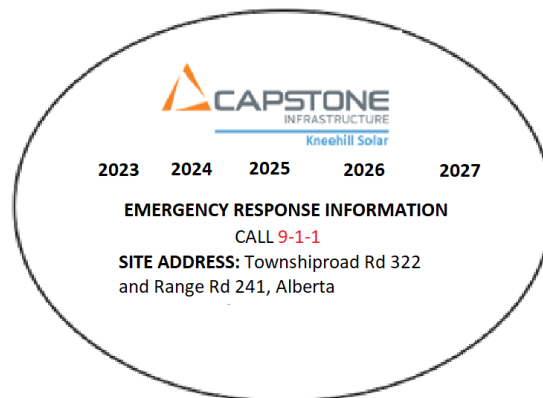

Figure 1. Orientation Sticker Example
- All individuals who participate in the site orientation shall receive an orientation sticker for their hardhat (Example seen in Figure 1). The sticker includes emergency information for contacting 911 and, including the site address.